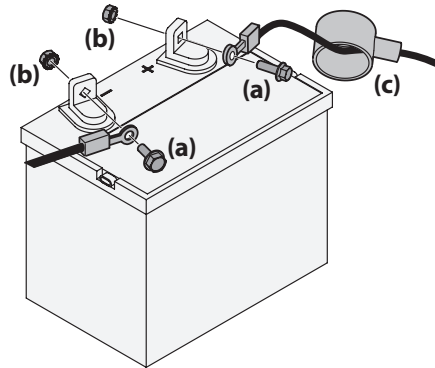

Figure 2-2
1. Remove the plastic cover, if present, from the positive battery terminal and attach the red cable to the positive battery terminal (+) with the bolt (a) and sems nut (b). See Figure 2-2.
2. Remove the plastic cover, if present, from the negative battery terminal and attach the black cable to the negative battery terminal (-) with the bolt (a) and sems nut (b). See Figure 2-2.